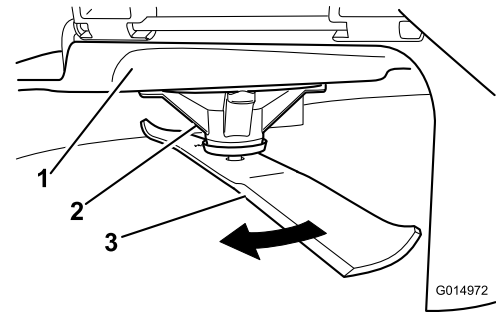

Figure 61
2. While wearing thickly padded gloves, or other adequate hand protection, slowly rotate the blade to be measure into a position that allows effective measurement of the distance between the cutting edge and the level surface the machine is on (Figure 61).